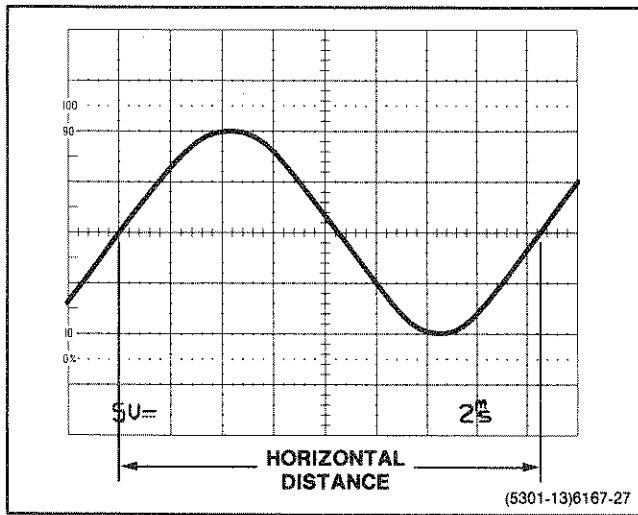

Figure 6-5. Time duration.
5. Position the display to place the time-measurement points on the center horizontal graticule line (see Figure 6-5).
EXAMPLE: The distance between the time-measurement points is 8.3 divisions (see Figure 6-5), and the SEC/DIV switch is set to 2 ms. A magnification factor of 1 is used.
EXAMPLE: The signal in Figure 6-5 has a time duration of 16.6 ms.